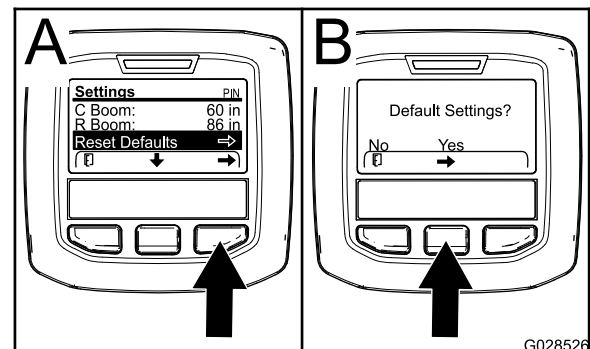

Figure 75
1. Press the center selection button to navigate to the Reset Default entry (Figure 75).
3. In the Default Settings screen, press the left selection button for NO or the right selection button for YES (Figure 75).